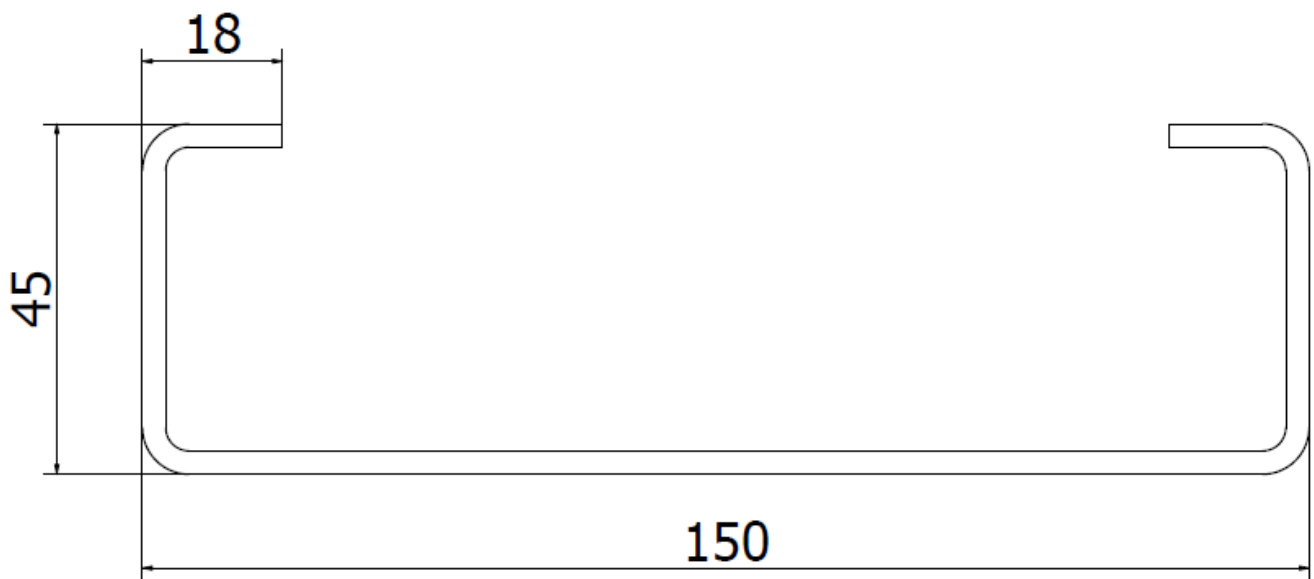

FIG1. Cross-section of a support driven into the ground
1. In order to assemble the structure by hammering, it is necessary to have suitable machinery, e.g. a pile driver or an excavator with a suitable adapter with a load-bearing section – Fig. 1.
5. Supports must be driven to a **MIN depth of 1500 mm**. When driving in the supports, use a spacer, preferably in the form of a dedicated adapter suitable for its cross-section – Fig.1, direct contact with the component being driven is prohibited. This will prevent mechanical damage and the removal of the anti-corrosion coating from the supports. While driving in, check their vertical position.